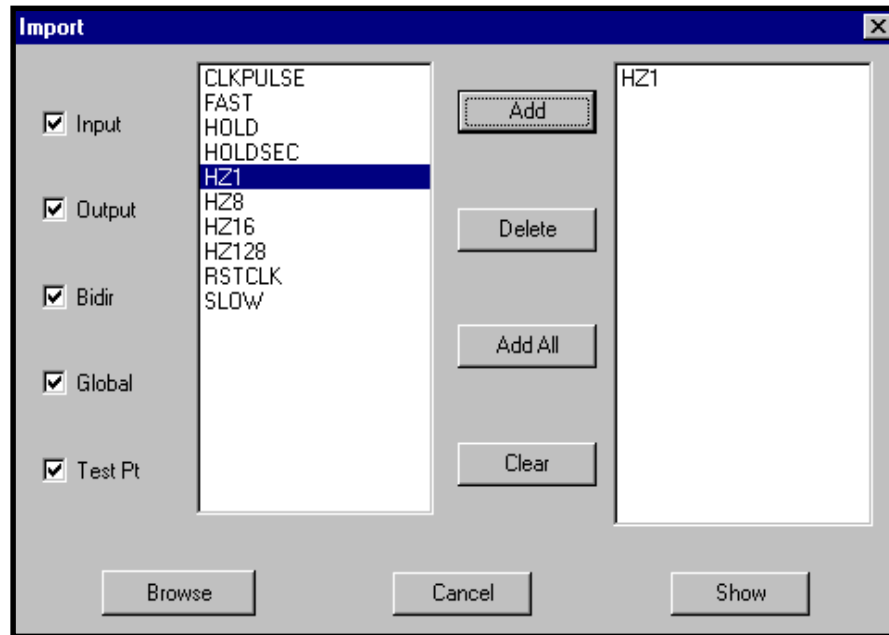

Figure 4-4. Import Dialog Box
3. In the Import Naf File dialog box, select a .naf file and click **Import**. All the signals contained in the .naf file are listed in the left field of the Import dialog box (Figure 4-4).